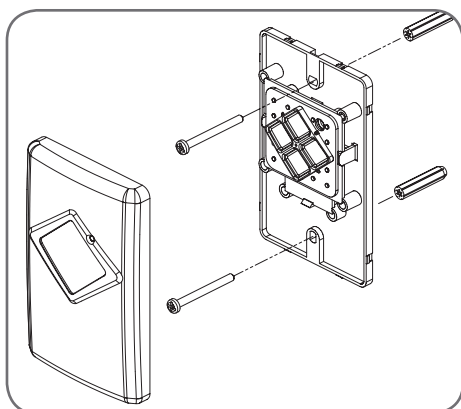

Fig. 8.5
- Mount the transmitter in a convenient location, yet out of reach of children and at least 1.5m off the ground **(Fig. 8.5)**.